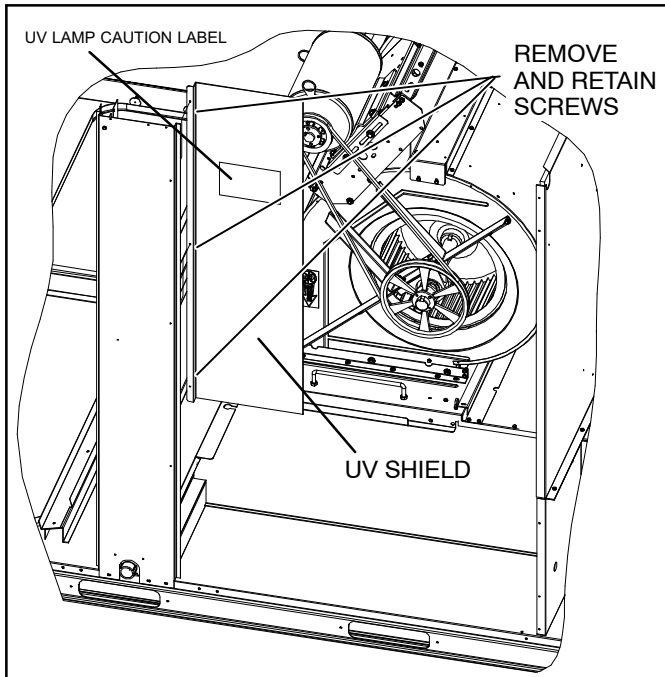

Figure 4. Remove UV Shield
4. Remove and retain screws securing the UV shield to the blower mullion (see figure 4).